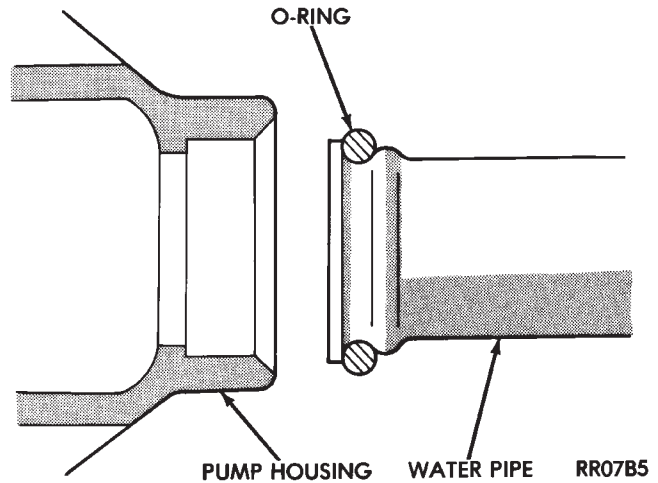

Fig. 5 Water Pipe O-Ring
- (1) Clean all gasket and O-ring surfaces on pump and water pipe inlet tube.
- (2) Install new O-ring on water inlet pipe (Fig. 5). Wet the O-ring (with water) to ease assembly.